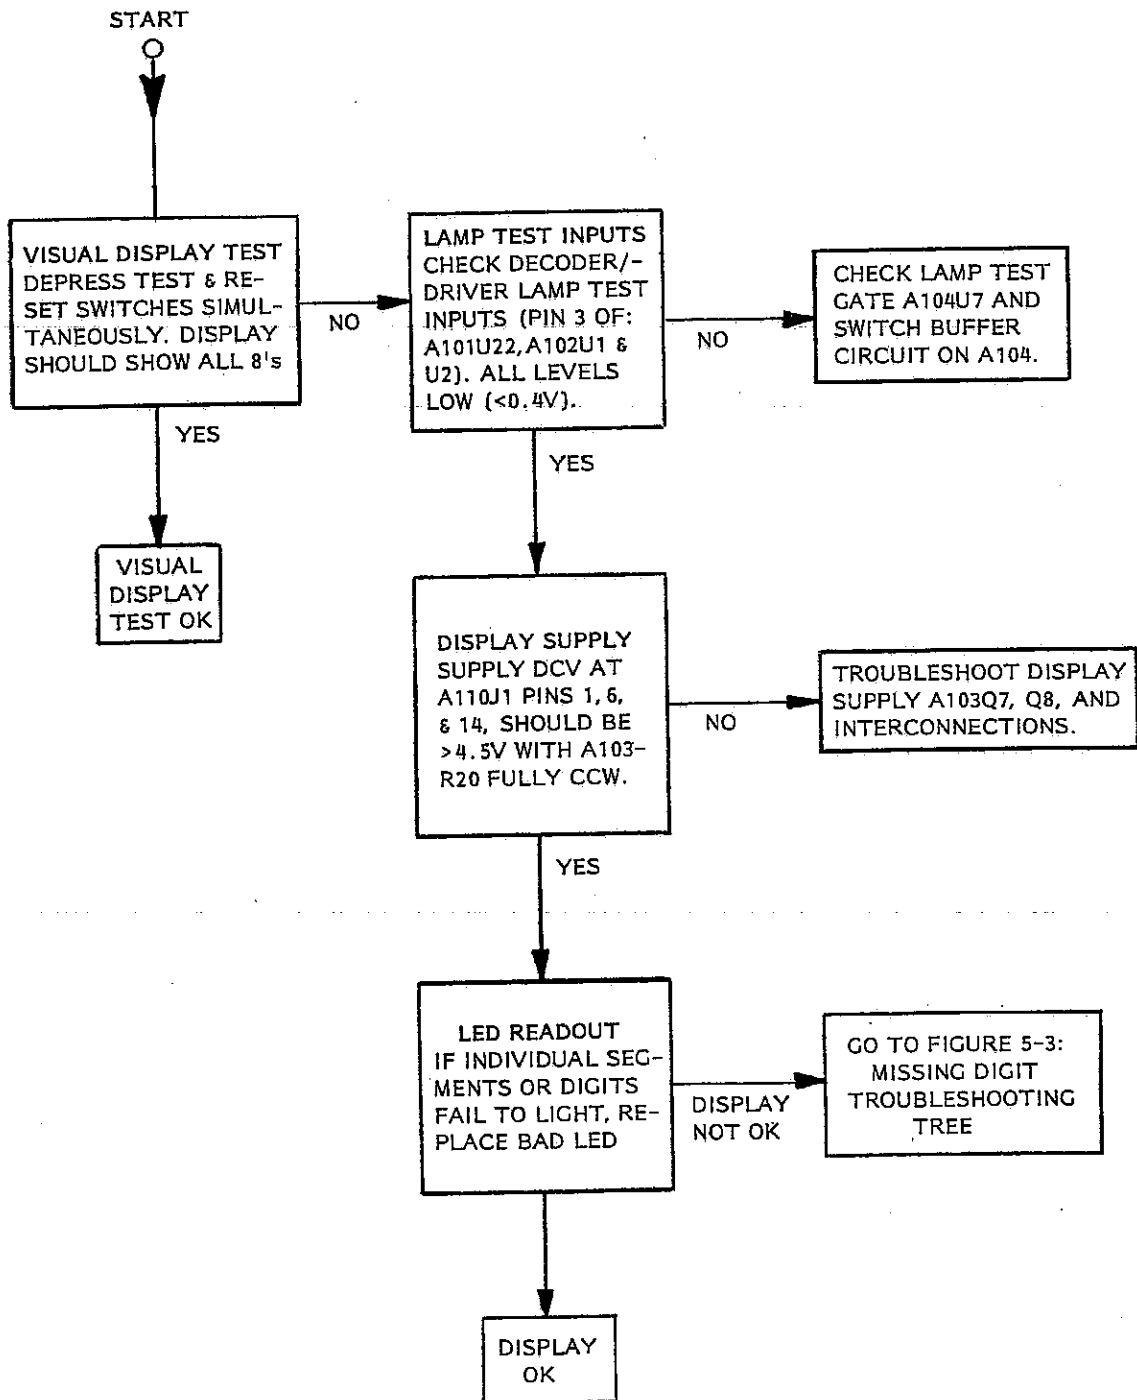
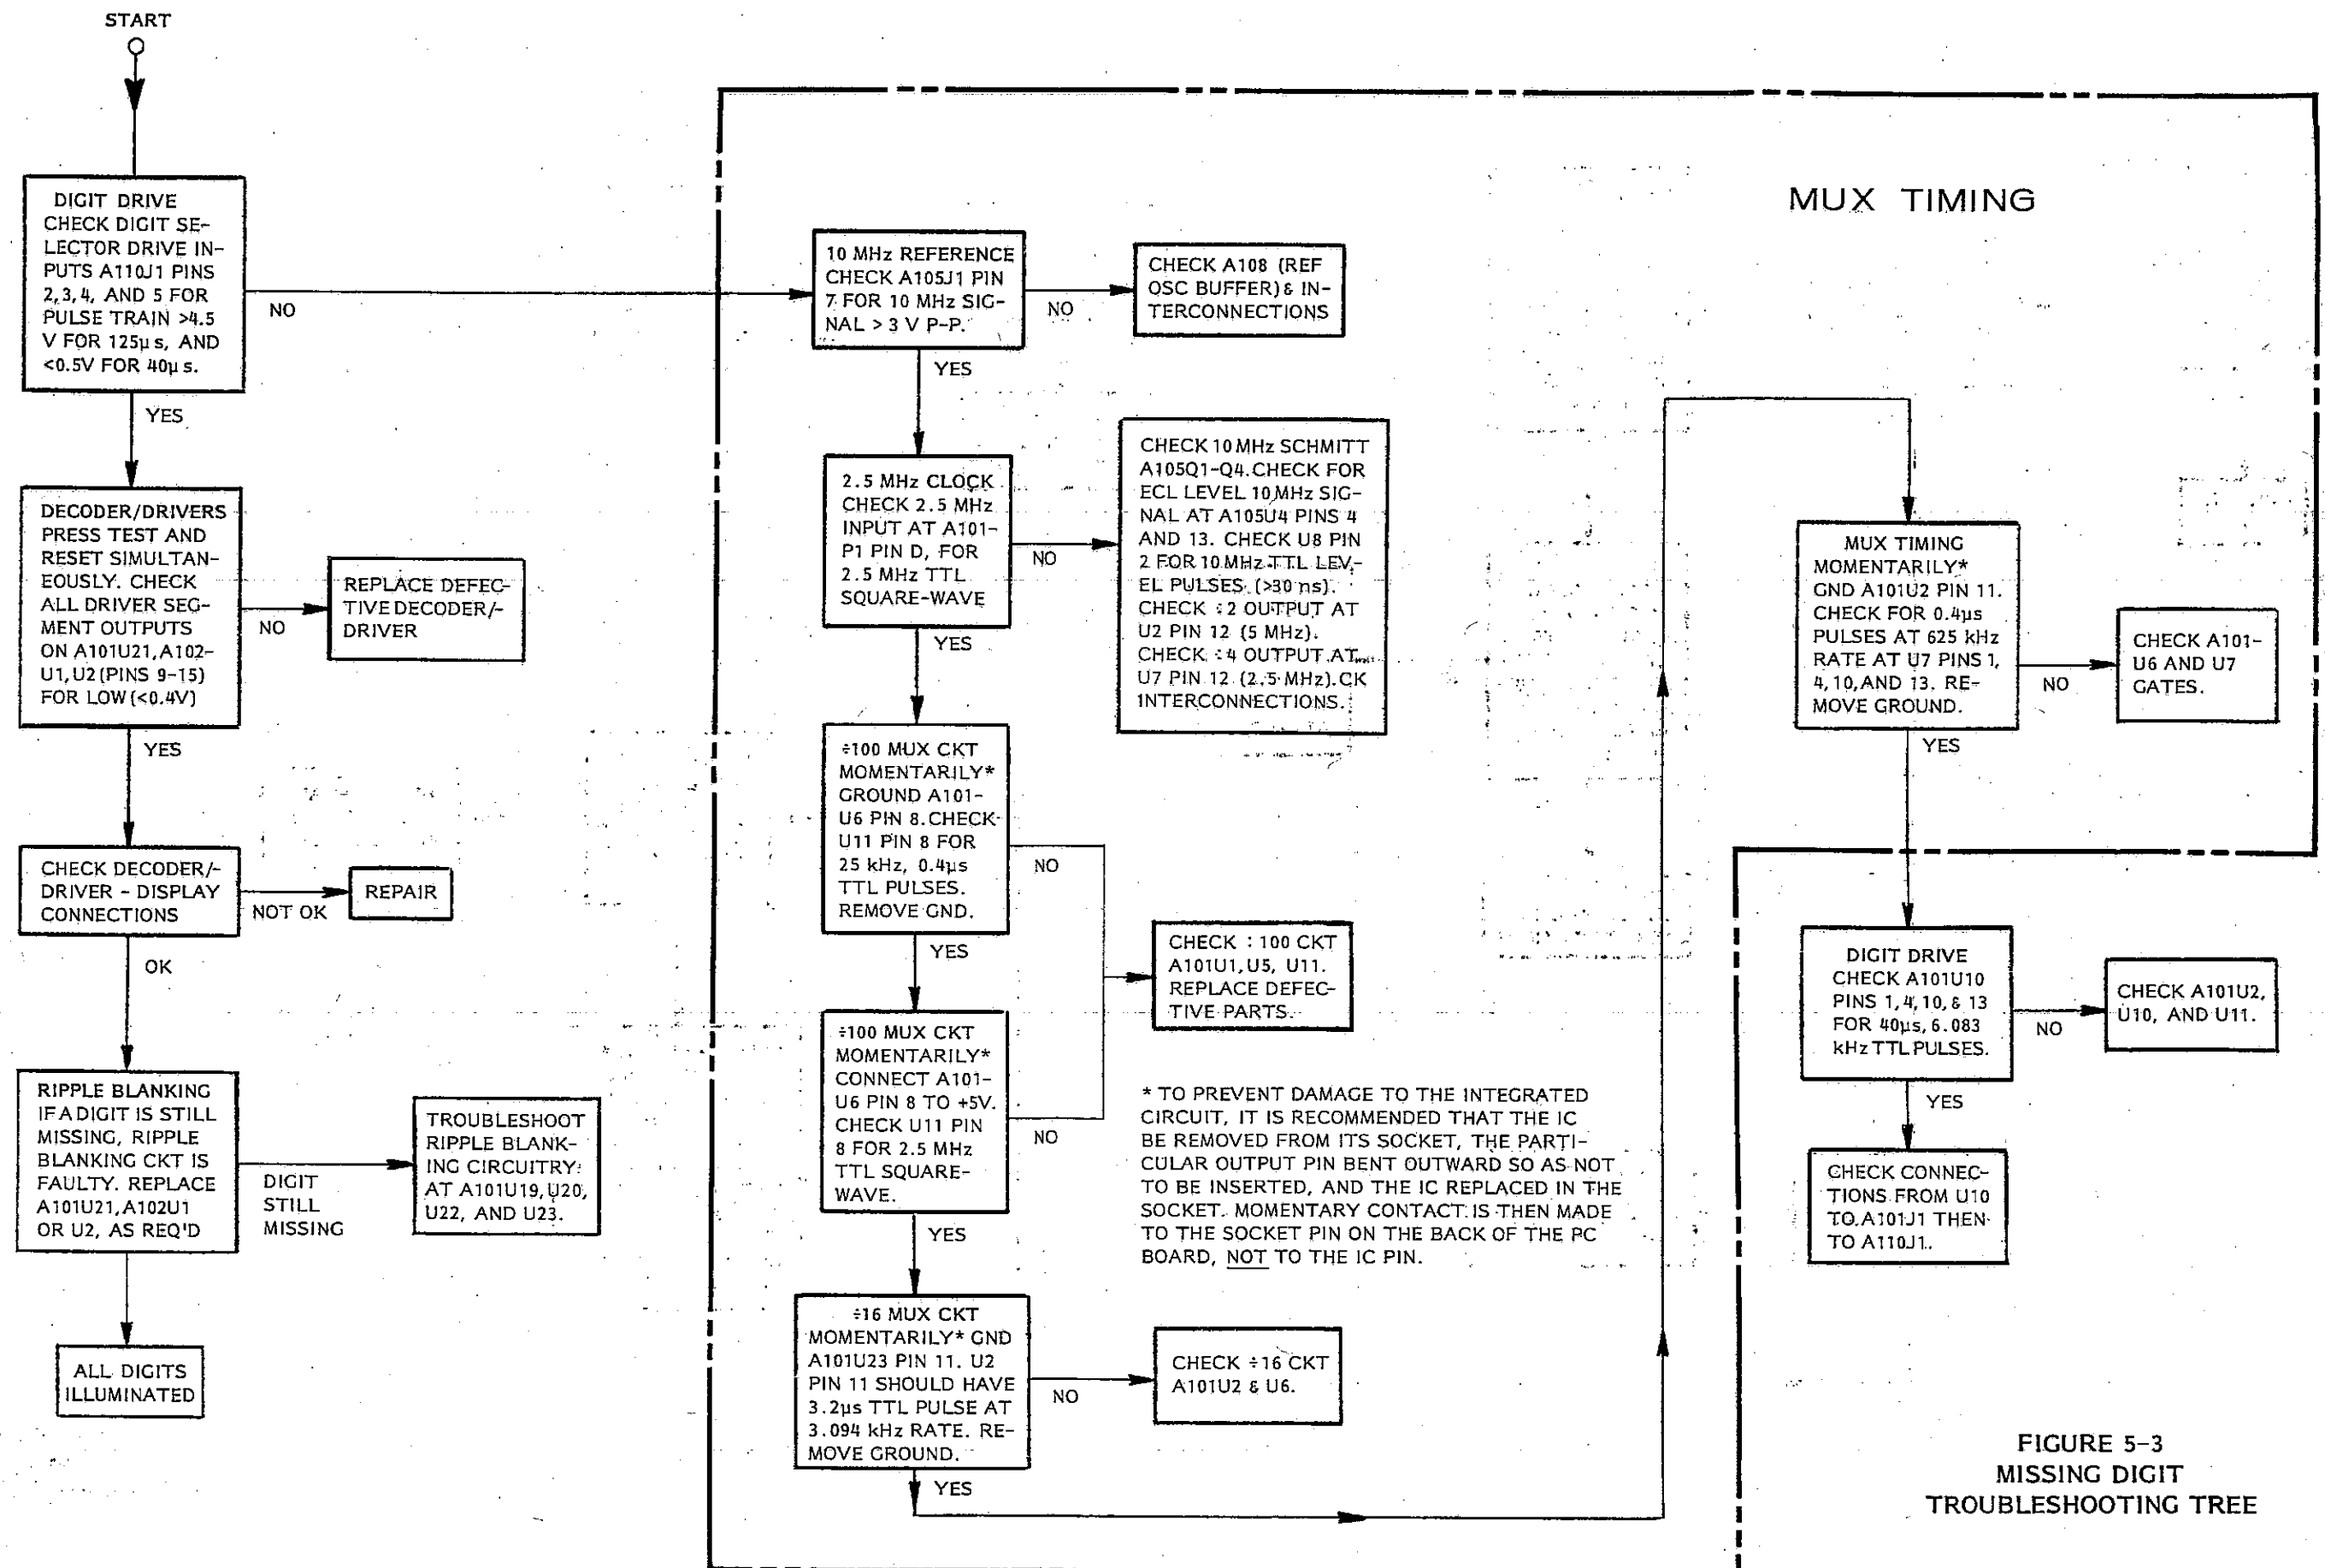
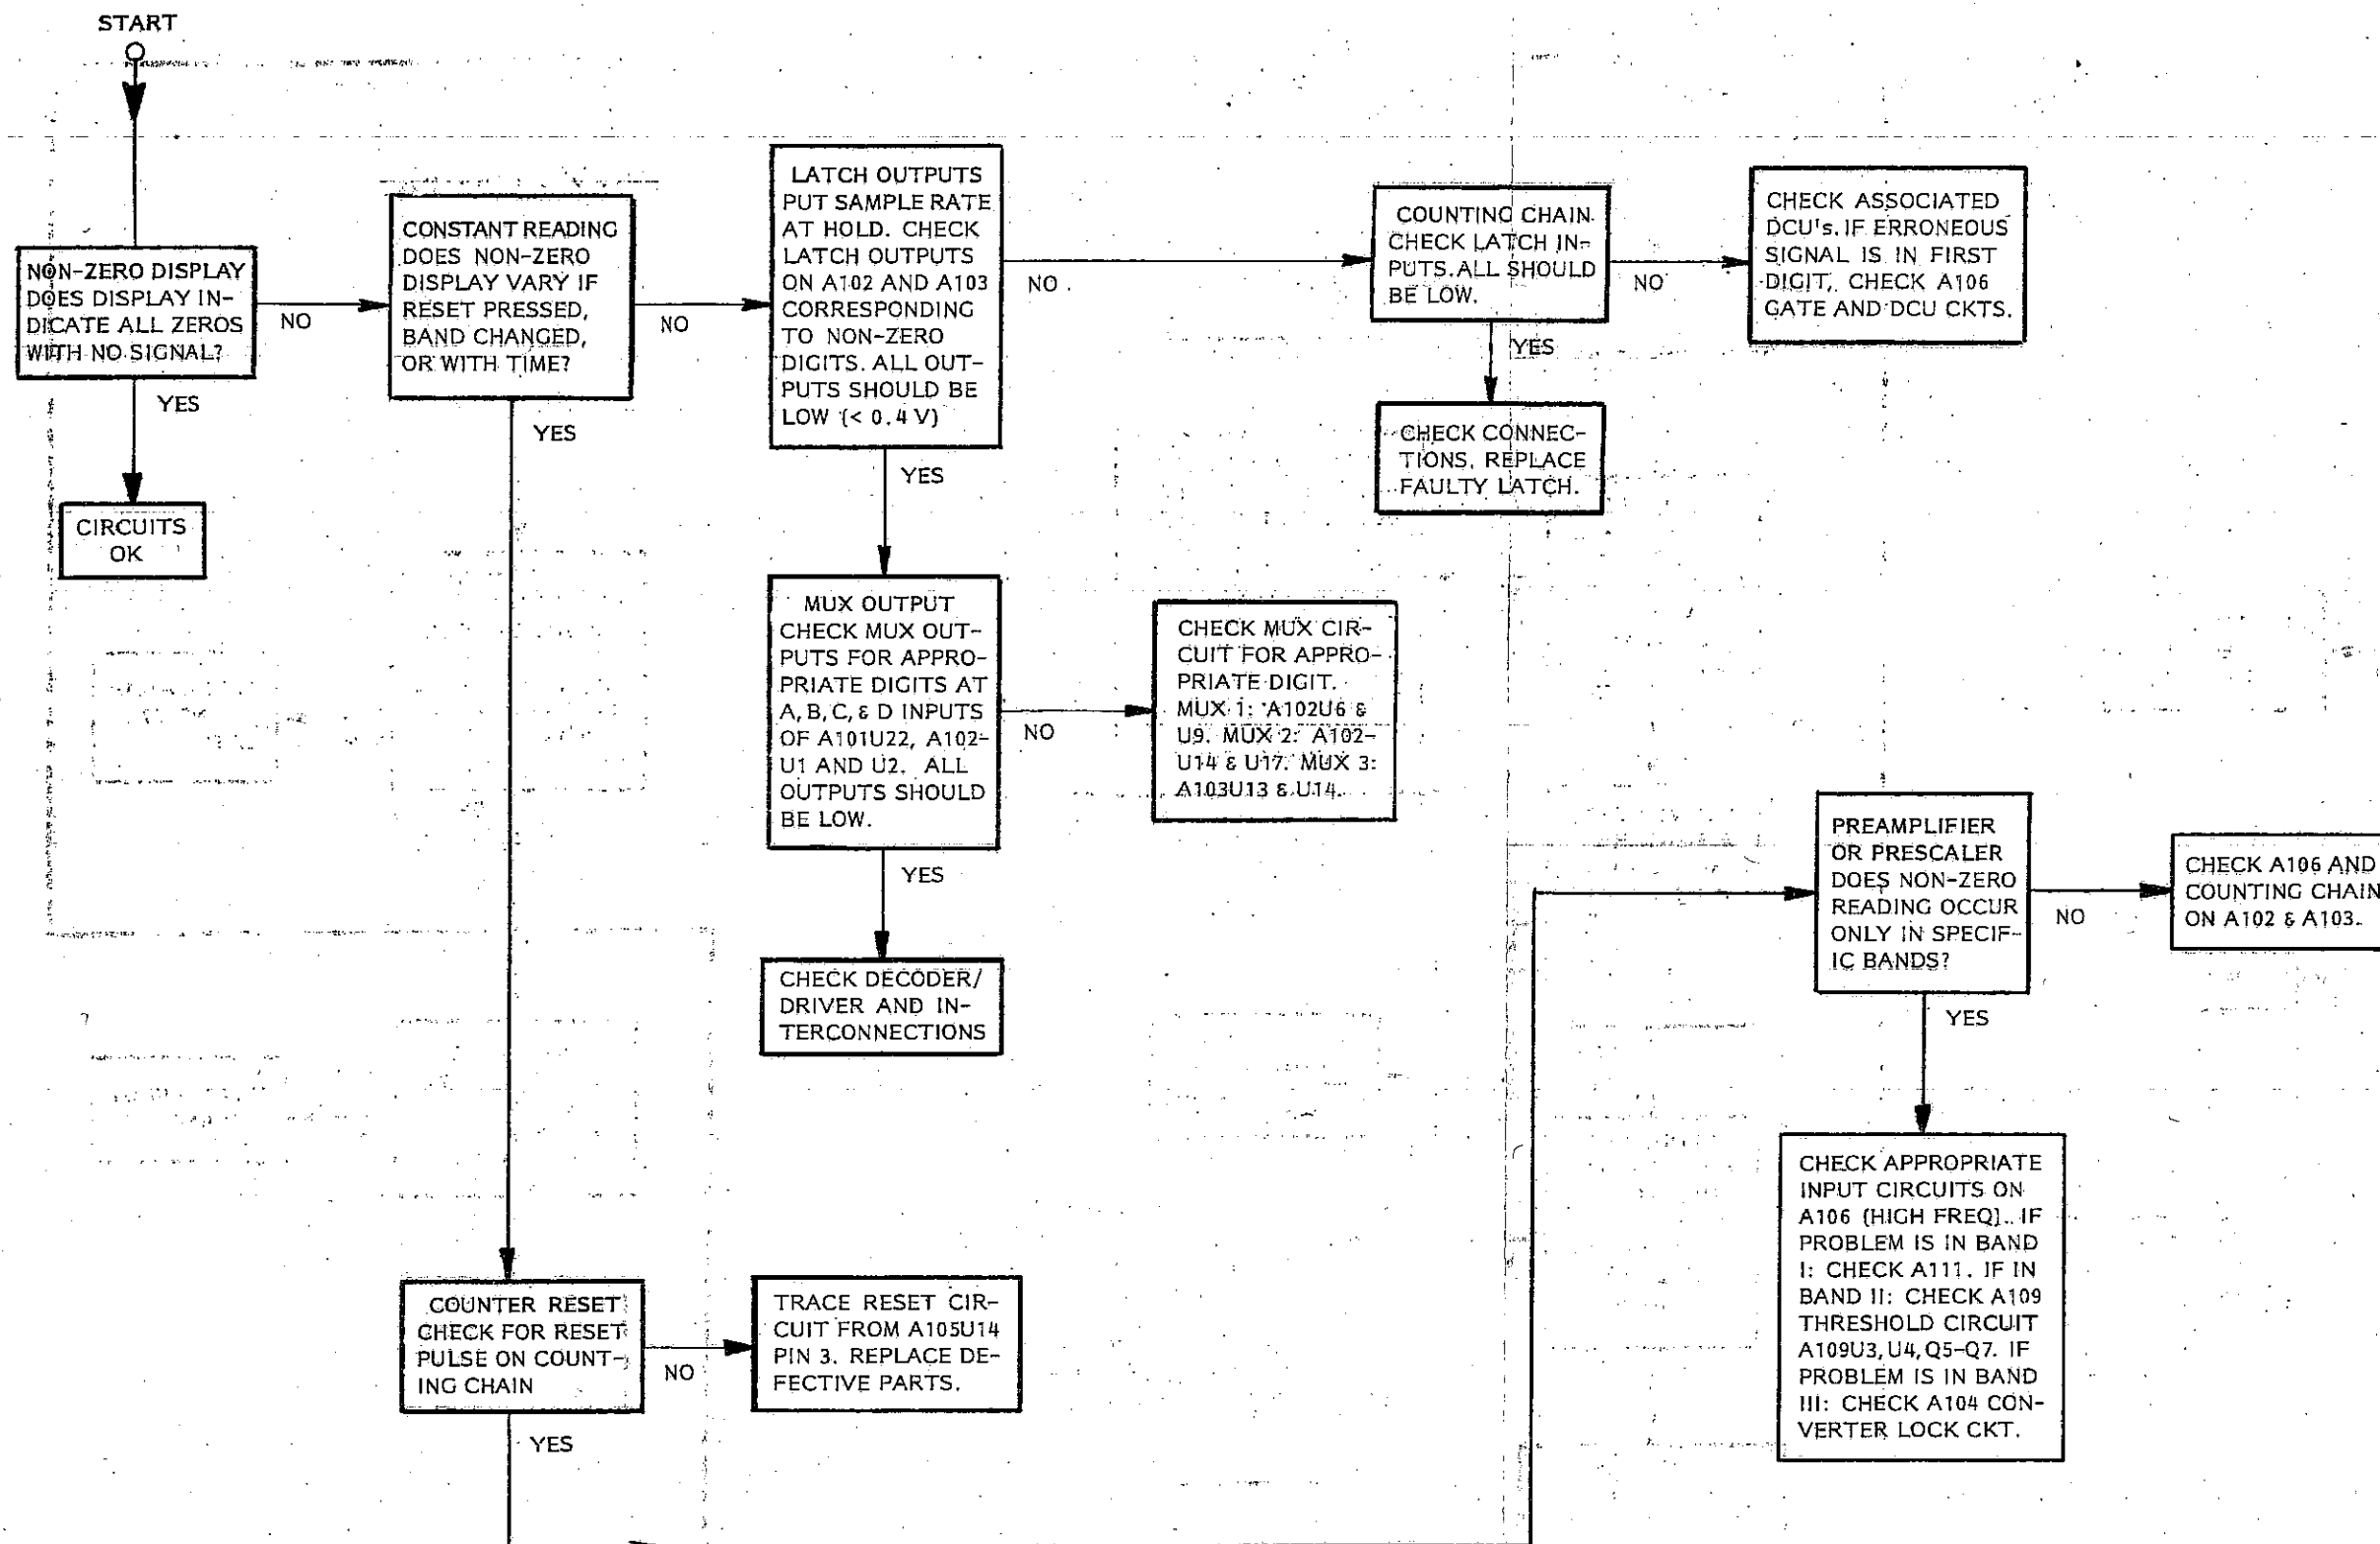

FIGURE 5-2
FIGURE 5-3
FIGURE 5-4
- f. If counter fails the Visual Display Test, refer to Troubleshooting Tree - Figure 5-2. If counter displays all eights but a digit is missing, refer to Figure 5-3. If the display does not show all zeros when it should, refer to Figure 5-4.